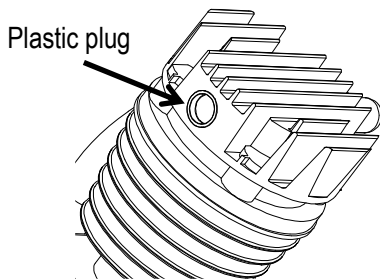

Figure 1
2. Remove plastic plug from air compressor inlet. (Figure 1)